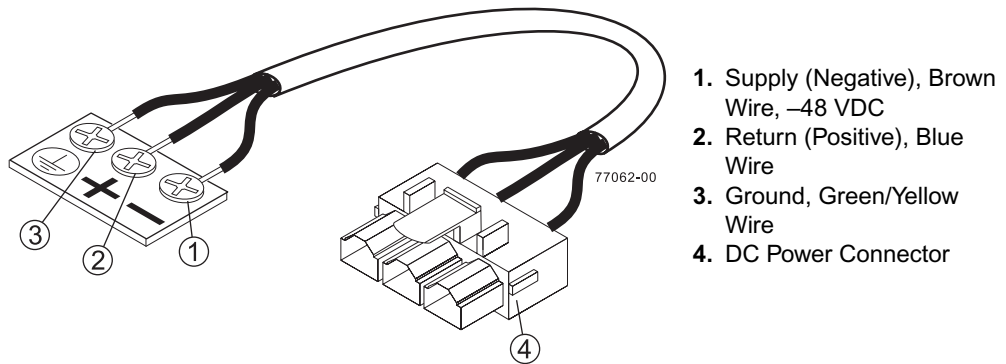

FIGURE B-2 DC Power Connector Cable and Source Wires
Caution – **Risk of electrical shock** – This unit has more than one power source. To remove all power from the unit, all DC MAINS must be disconnected by removing all power connectors (item 4 in Appendix FIGURE B-2) from the power supplies.
The Sun StorageTek 6140 array is shipped with –48-VDC power connector cables if the DC power option is ordered. The power connector cable plugs into the DC power connector on the back of the array (Figure 6-3 on page 6-3). The three source wires on the other end of the power connector cable connect the array to centralized DC power plant equipment, typically through a bus bar above the cabinet. A qualified service person is required to make this DC power connection. FIGURE B-2 shows the DC connector cable and the source wires.